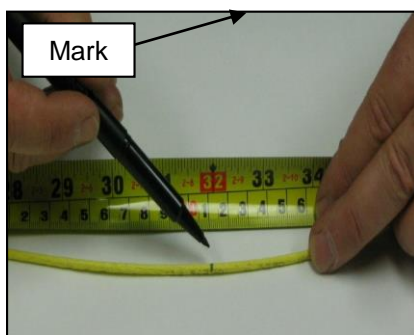

Figure 11
8.2 Use a felt tip pen to mark fiber bundle PEF jacket at appropriate location for jacket removal. **See Fig. 11.**